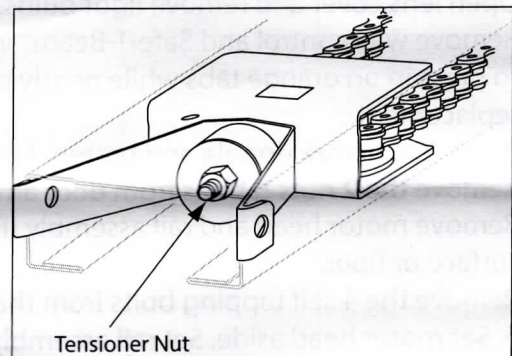

FIG. 7
10. Loosen tensioner nut from door end of rail to create slack in belt/chain. FIG. 7.